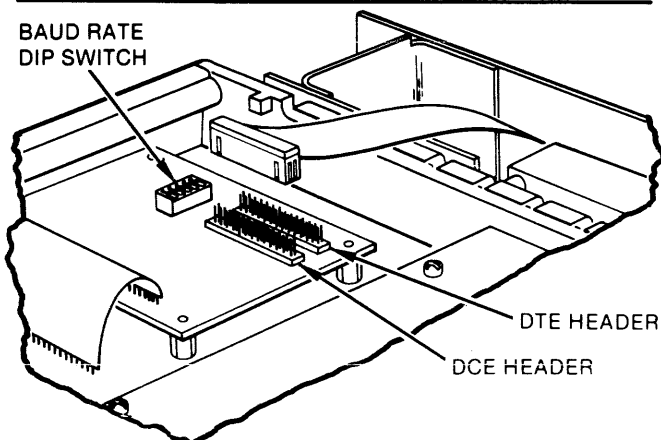

Figure 2-9. Baud Rate Dip Switch and DTE/DCE Connections
The baud rate is selectable from those listed in table 2-5 using dip switch SW1 (figure 2-9).
Before connecting the Model 23 RS-232-C interface, the correct configuration (DCE or DTE) must be selected and the internal ribbon cable connected to either the DCE or DTE location (figure 2-9) on the RS-232-C option board.
1. Determine if the controller is a DCE device or a DTE device. If this is not explicitly spelled out you will need to look at the pin out for its connector. If pin 2 is the data output, the device is a DTE (most computers). If pin 3 is the data output, the device is a DCE (most modems). Configure the Model 23 as the opposite type of device by connecting the internal option cable to the appropriate header (figure 2-9). (See figure 2-1 for cover removal, 2-6 for installation.)
4. Set the baud rate on the Model 23 to the highest rate that is available on both the Model 23 and the controller/computer. This is done by setting the dip switches (figure 2-9) according to table 2-5.